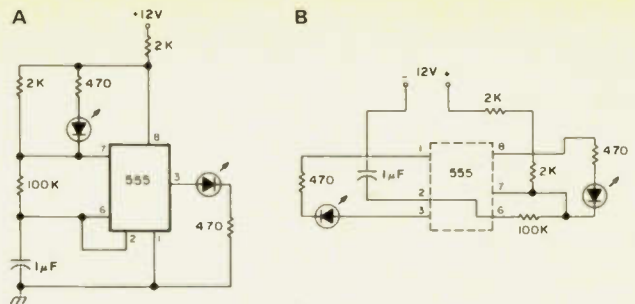

Fig. 4. a) The alternate flasher for the HT LEDs can be hamfest or Radio Shack specials. Resistor values are not critical. b) Parts layout for the flasher.
As a special nonsense feature, I placed an LED on each side of the HT and connected them to a small 555 flasher circuit, which I mounted in the open (PL) area near the rig's bottom. The circuit for this blinker is shown in Fig. 4. This item doesn't do anything for the HT except make it look impressive. Build it small so you'll have room for more
important modifications later. Component values are not critical, so feel free to use whatever junk box parts you have available. My circuit was assembled on a one inch piece of vectorboard as shown in Fig. 4. Power for the flasher is derived from the HT's battery pack. This may be accomplished by locating S202 (A and B) and moving the 1 Watt connections to the off position, and then securing flasher voltage from the 1 Watt position. The HT's hot wire is then connected through the unused squelch control switch for rig on/off functions. These flasher circuits were so enjoyable to build and use that I constructed several of them. Then I purchased some small paper mache animals with hollow insides from a local gift store and mounted the circuits in them. LEDs were placed in the drilled out eyes. A 9 volt transistor battery was placed in each unit for powering the flasher. Exclude the 2k resistor on pin 8 to +V if you use a 9 volt battery.